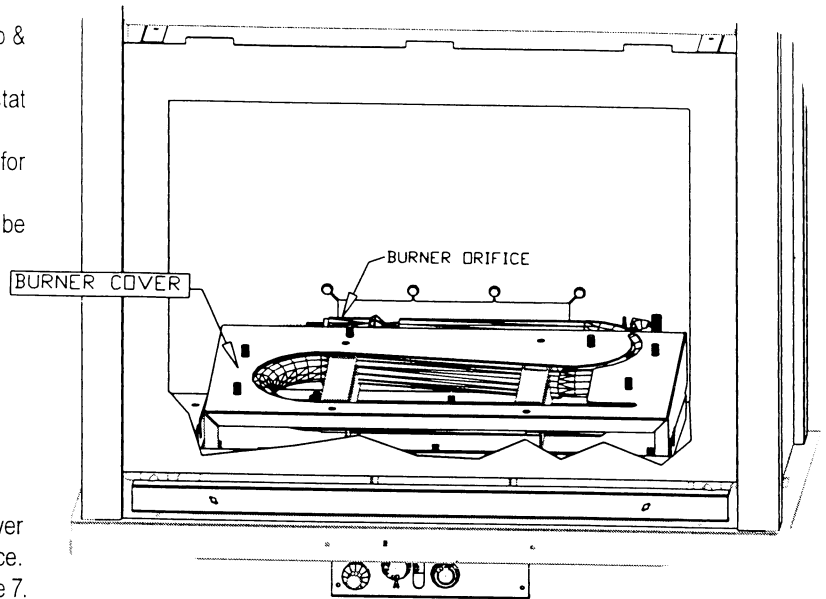

Figure 7
8. Remove the burner cover by lifting the front of the cover up, then carefully sliding the burner tube off the orifice. Remove entire assembly from the firebox. See figure 7.
3. Place the burner cover assembly onto the board, properly seating the burner tube over the orifice. The burner cover should be 'inside' the flanges on the board. See figure 7.
4. Check that the burner tube is properly seated over the burner orifice. (See figure 7.)